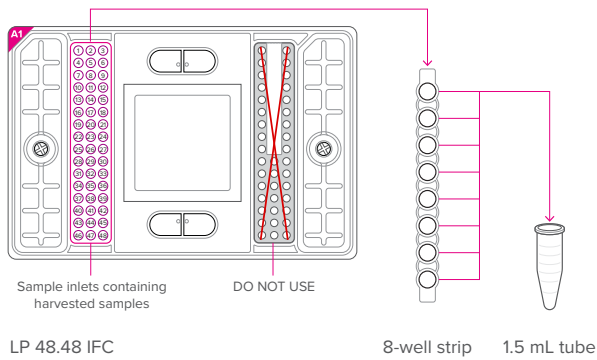

Figure 6. Process for pooling harvested samples
- ❑ 1 Carefully remove the LP 48.48 Barrier Tape from the sample chamber of the IFC (Figure 6).